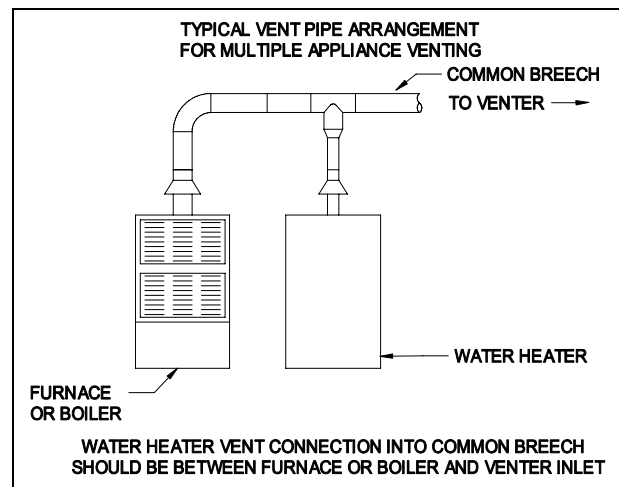

Figure 10
- b. A CK-20FV or CK-20FG control kit MUST be added to the system to properly control the venter during operation of the water heater. Refer to Figure 10 and Diagram F for vent pipe arrangement and wiring information.